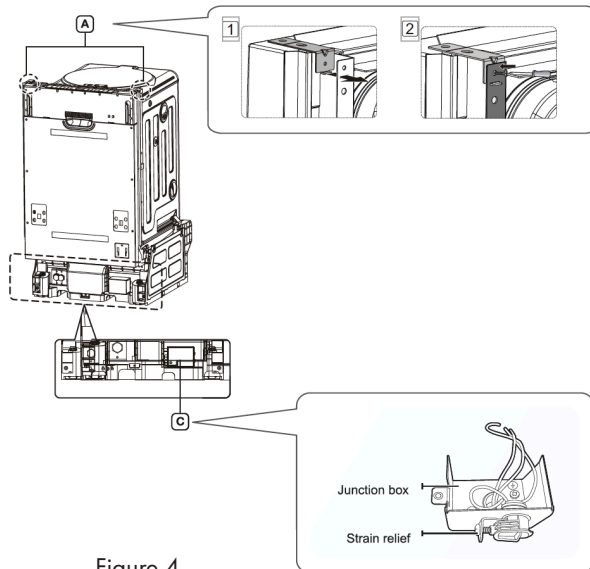

Figure 4
2. Remove the junction box cover located at the bottom front right of the dishwasher using a screwdriver, and then Install the strain relief (Figure 4 - C). Make sure to keep the junction box cover you removed. It is used in Step 11, Wiring Connections.
3. If the countertop is made of wood or a material that is not damaged by drilling, attach the two Installation brackets that were supplied with the dishwasher using the supplied screws (Figure 4 - A). They will be used in Step 9, Securing the Dishwasher